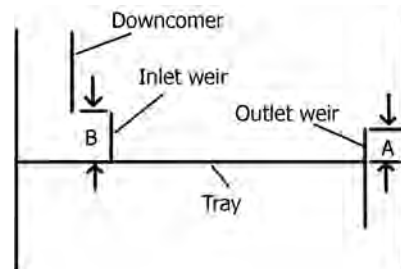

FIGURE 16.12 Weir height.
- Inlet weir height, $B >$ outlet weir height, A , as illustrated in Figure 16.12.